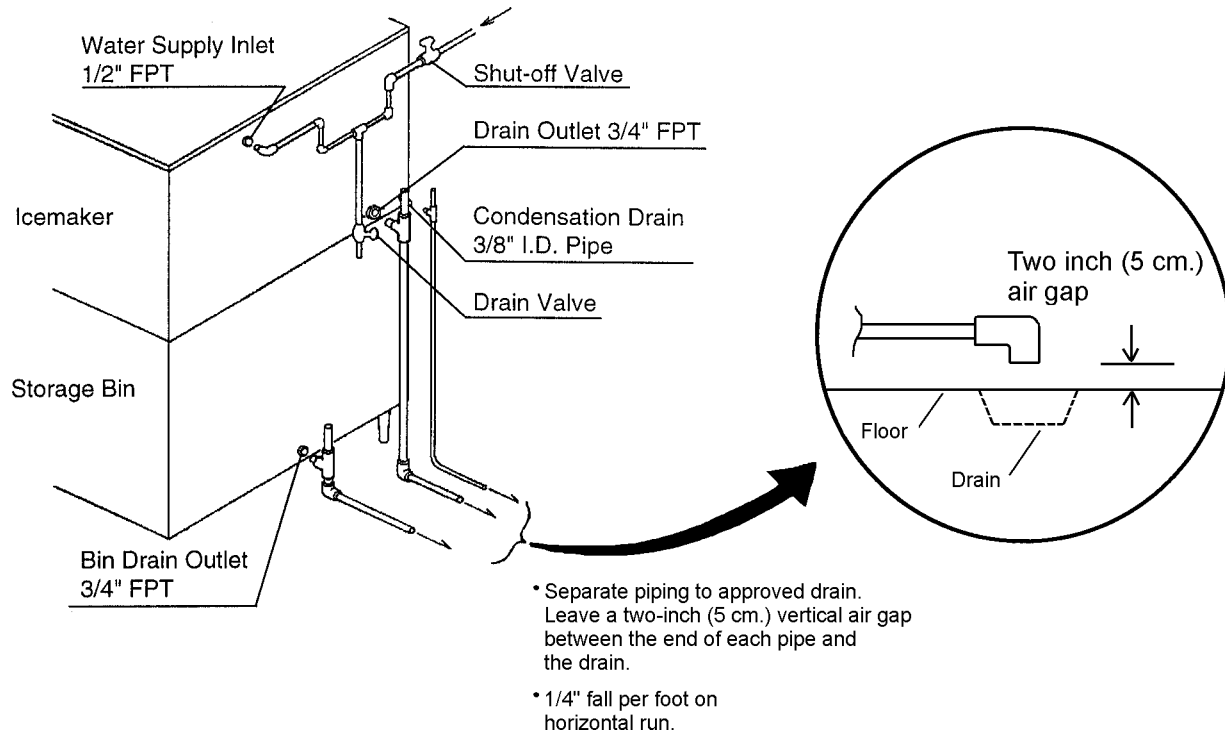

Fig. 11
8. WATER SUPPLY AND DRAIN CONNECTIONS - See Fig. 11